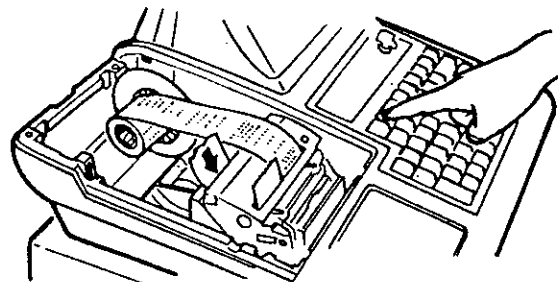

Fig.8
4. Press and hold the Receipt feed Key until the remaining paper comes out of the printer (See Fig.8.).